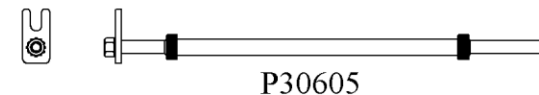

Fig. 1 When testing the 6600, **3.5 volts must be added** to the input voltage, when testing the 6605, **5.0 volts must be added** to the input voltage.
- 3) Measure the length of the cable. The length measured should be from the outer end of one ferrule to the outer end of the second ferrule. If testing a cable assembled to Mechanical Jumper Clamps or Load Pick-Up Tools, see Fig. 1 and Fig. 2 (page 4) to determine how to measure for length of the cable.